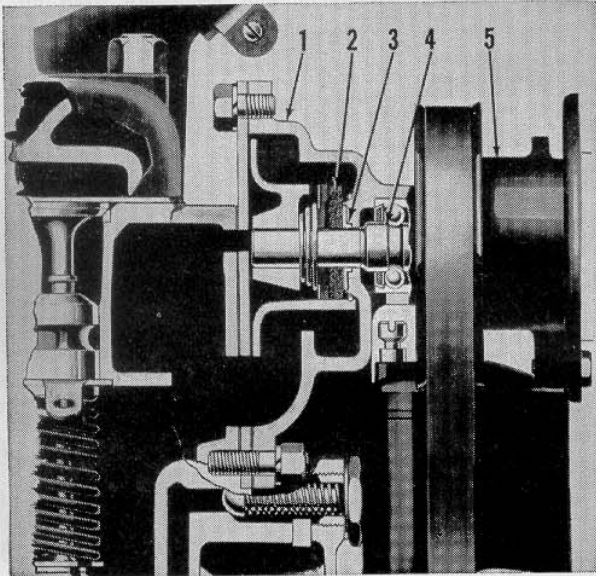

Fig. FO39—Water pump cross sectional view as used on models 2N-9N.
47. To disassemble pump, remove back cover plate and press fan pulley (5—Fig. FO39) off shaft and bearing assembly (4) using a suitable pulley. Remove bearing retainer snap ring from front of pump body and press shaft and bearing assembly forward and out of impeller and impeller pump